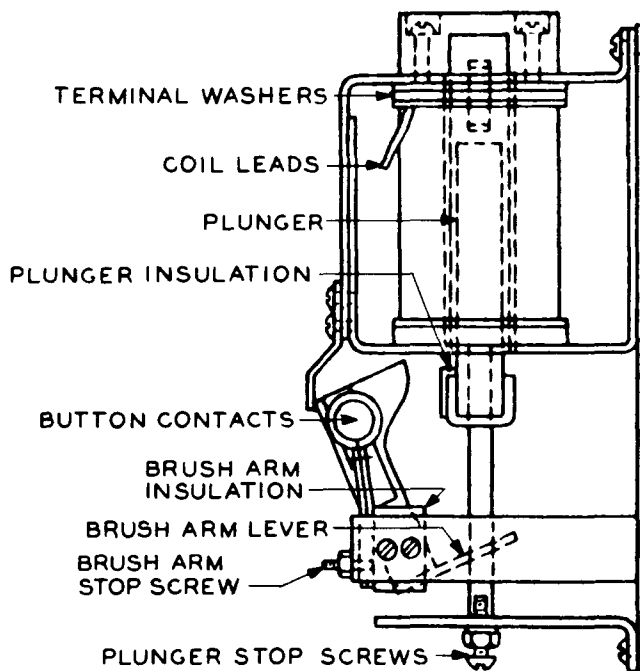

Fig. 4—Undervoltage Relay (Operated Old Version)
- (b) When the plunger is raised, the brush springs shall be approximately in the center of the button contacts. (See Fig. 4.)